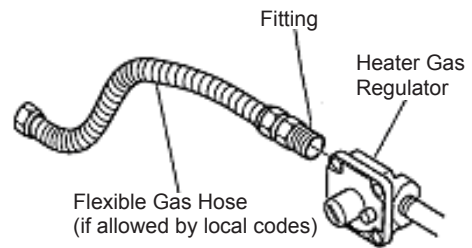

Figure 11 - Attaching Flexible Gas Hose to Heater Gas Regulator
1. Apply pipe joint sealant lightly to fitting threads. Connect approved flexible gas hose to gas regulator of heater (see Figure 11 on page 13). **NOTE:** Never apply pipe sealant to flare fitting threads